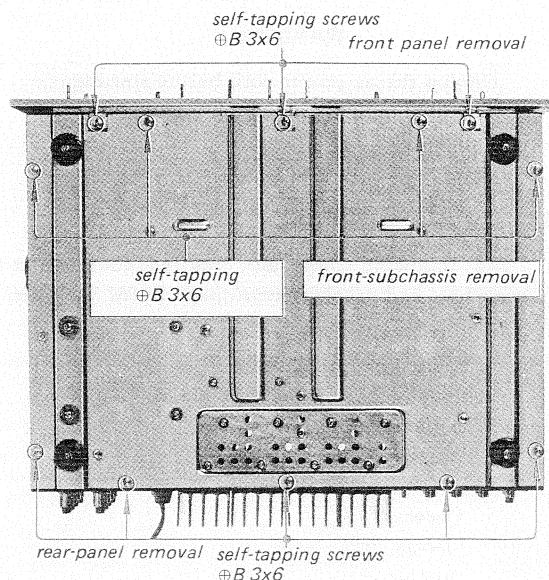
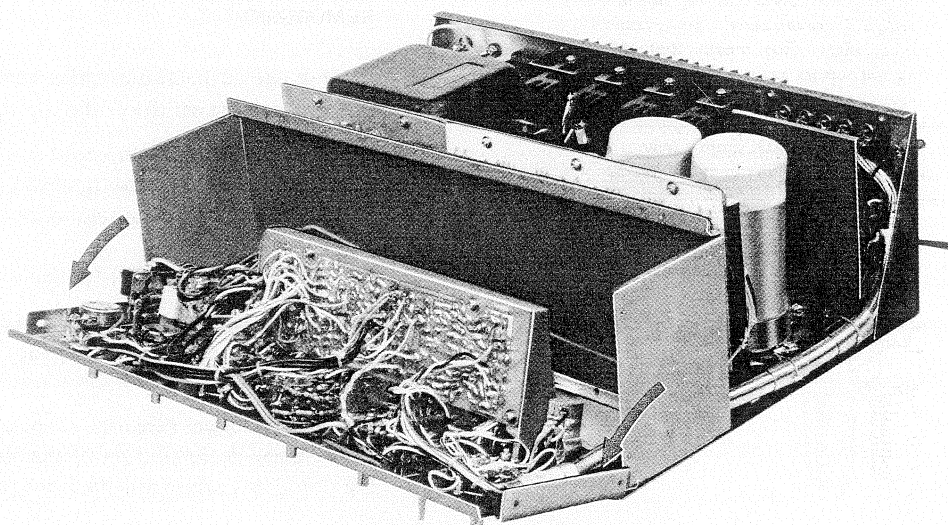
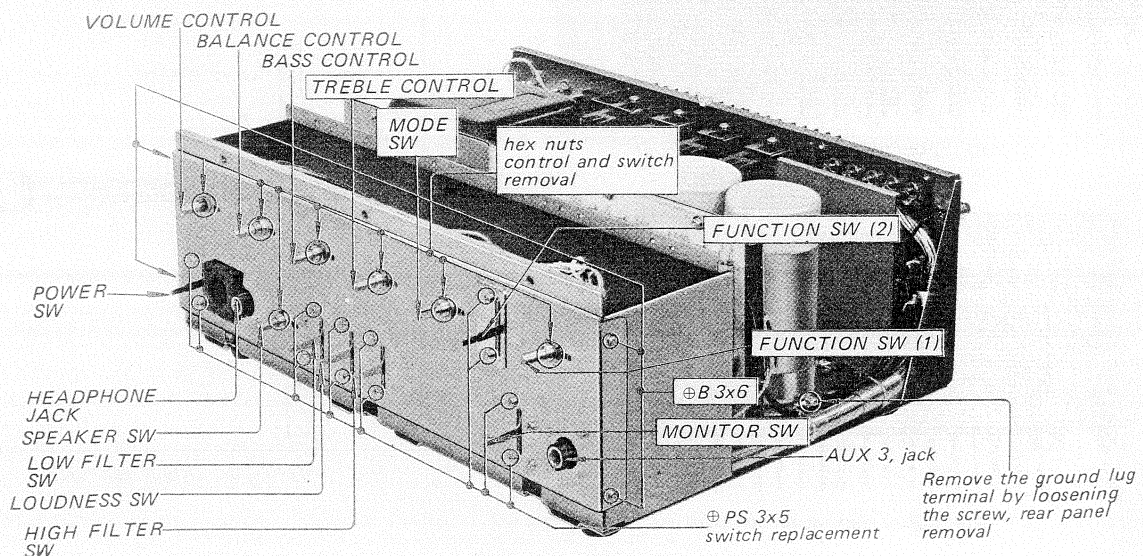
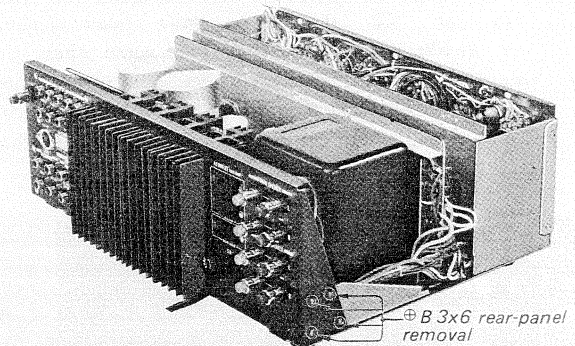

Fig. 2-3 Bottom view
Fig. 2-4 Front subchassis removal
Fig. 2-5 Control and switch replacement
Fig. 2-6 Rear panel removal
4. Remove the three self-tapping screws (+B 3x6) at the front bottom of the chassis as shown in Fig. 2-3. This frees the front panel.
2. Remove the two screws ($\oplus B 3 \times 6$) at each side of the chassis (see Fig. 2-5) and four self-tapping screws ($\oplus B 3 \times 6$) at the front bottom of the chassis as shown in Fig. 2-3. This frees front subchassis as shown in Fig. 2-4.
1. Remove the two screws (\oplus PS 3 \times 5) securing switches to the front subchassis as shown in Fig. 2-5.
1. Remove the hex nuts that secure the switches or controls to the front subchassis as shown in Fig. 2-5.
2. Remove the four screws (\oplus B 3 \times 6) at each side of the chassis (see Fig. 2-6) and five self-tapping screws (\oplus B 3 \times 6) at the rear bottom of the chassis as shown in Fig. 2-3.
4. Remove the ground lug terminal by loosening the screw securing the electrolytic capacitor (C923) bracket to the chassis as shown in Fig. 2-5.